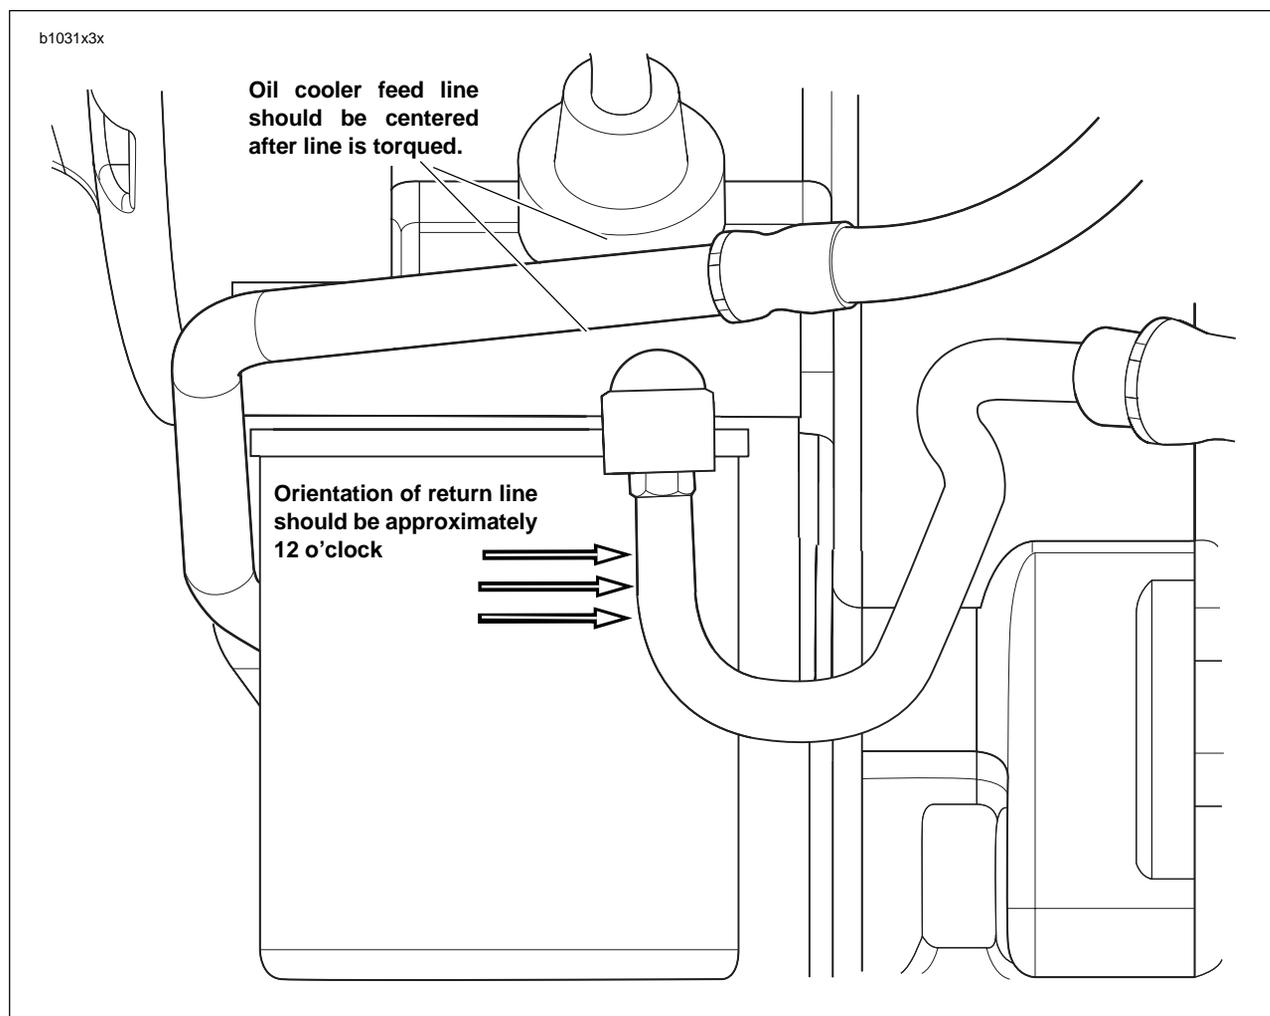

Figure 3-53. Oil Cooler Feed and Return Oil Lines Location and Orientation
31. See Figure 3-53. Install oil cooler oil feed line first at crankcase and tighten to 22-24 ft-lbs (29.8-32.5 Nm). Lightly coat the threads of the oil cooler fitting with clean H-D 20W50 engine oil. Wipe off any excess oil. Tighten feed oil line to 19-21 ft-lbs (25.8-28.5 Nm) at oil cooler making sure to center the oil line between the oil sending switch and the return oil line fitting on the crankcase.
See Figure 3-53. The orientation of the oil cooler return oil line where it enters the crankcase should be at approximately 5 o'clock to allow for proper alignment and clearance of other components on the vehicle.